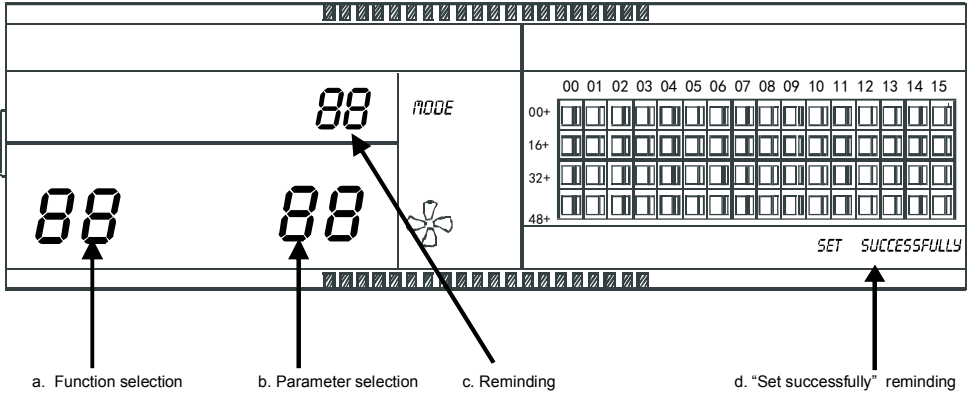

Fig 2.9 Filter net in addition to the dust function involves of show a contents
① Dial the dial code 3 to "ON", select the "Has optional function" referring to table 2.1 to , and then power on the centralized controller, in 1 minute press " " key and hold on then press " " key, enter to optional function setting. Dual eight represented function selection (Fig.2.9 a) will be flashed with 1Hz frequency (default display 00), display the optional function code (see table 2.2). Press " " and " " keys to select function, and then press " " key to enter parameter selection.
②After enter parameter selection, dual eight represented function selection will be lighted on, dual eight represented parameter selection (Fig.2.9 b) will be flashed with 1Hz frequency, display optional parameter code. Through pressing " " and " " keys to select the detailed parameter.
③Press " " to confirm parameter selection(details parameter codes' corresponding time refer to table 2.3).
④After setting successfully, Dual eight represented function selection and dual eight represented function selection will be lighted on, the screen will display "Setting successfully" (Fig. 2.9 d). After 3 seconds will auto exit optional function setting. The screen will back to normal display.